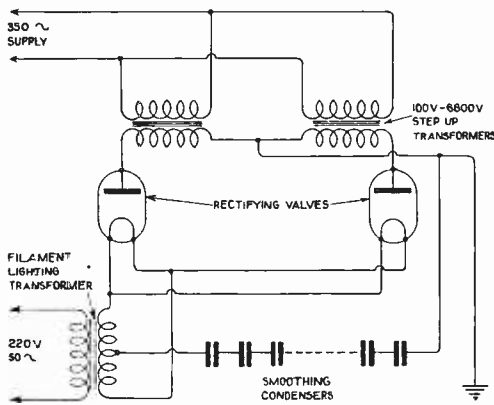

Fig. 4. The Rectifying circuit.
"E.C." (Sheffield) asks (1) With reference to Fig. 4, page 550, January 20th issue of this journal, is the reaction effect increased when the anode coil is brought closer to the aerial coil. (2) Is energy likely to be transferred to the aerial circuit if proper care is not taken. (3) May the grid leak be connected across the grid condenser, or must it be connected between the grid and L.T.+.
(1) The reaction effect is increased when the reaction coil is coupled tighter with the aerial coil provided the reaction coil is correctly connected. If the connections are reversed, the signals will
half wave (Fig. 4). The filaments of the valves were joined in parallel and were eventually fed from a step-down transformer fed off the 220 volts 50 cycle supply. We had